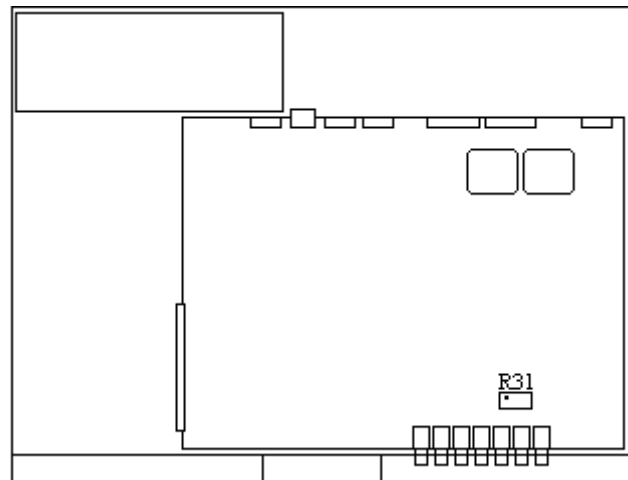

Figure 18 - GETC Shelf
1. The High Speed Data Deviation is set using R31 on the GETC Logic Board (see Figure 18). When the GETC is in this test mode, audio is routed from the High Speed Data input to the station. No other signals (receiver, line in) will be transmitted. The signal from the GETC to the transmitter is 9600 BAUD, 4800 for some Narrow Band Systems, Pseudo - Random Data. Measure the transmitter deviation and adjust R31 on the GETC Board for 3.0 kHz (2.4 kHz NPSPAC), (1.5 kHz for Narrow Band) ± 100 Hz deviation.